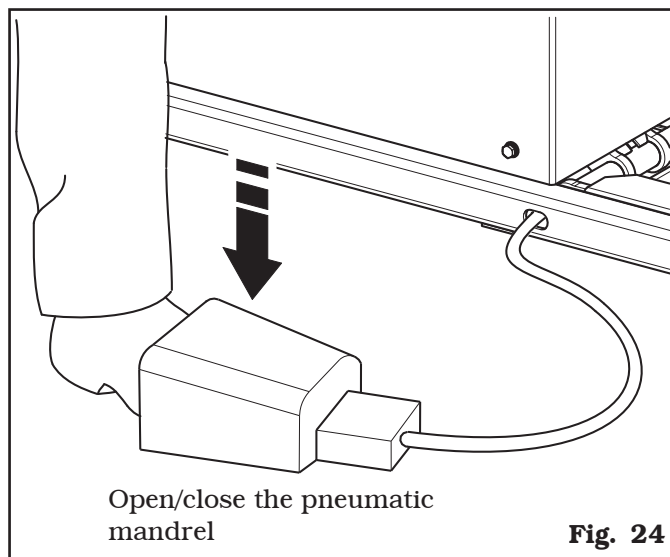

Fig. 24
1. Open the pneumatic mandrel by pressing the special pedal, (see **Fig. 24**).
9. Close the pneumatic mandrel by pressing the special pedal, (see **Fig. 24**).